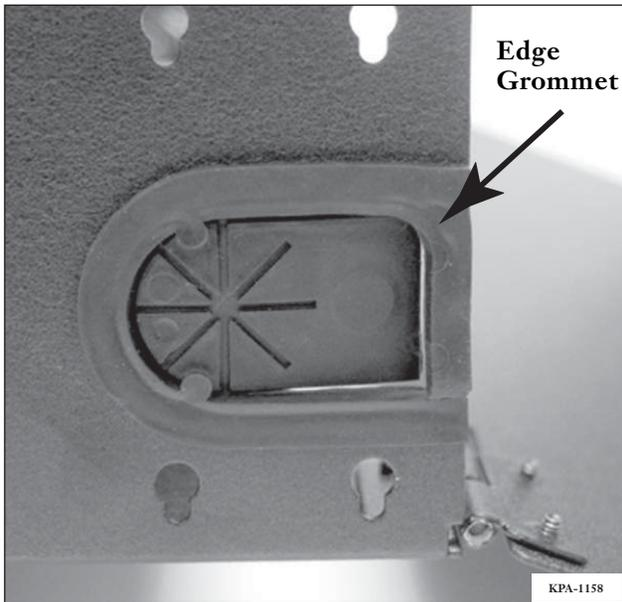

Figure 8
8.2 Determine the location for the cable entry into the housing. The grommets found at each cable entry port can be punctured or the entire center section can be removed, leaving an edge grommet (Figure 8).